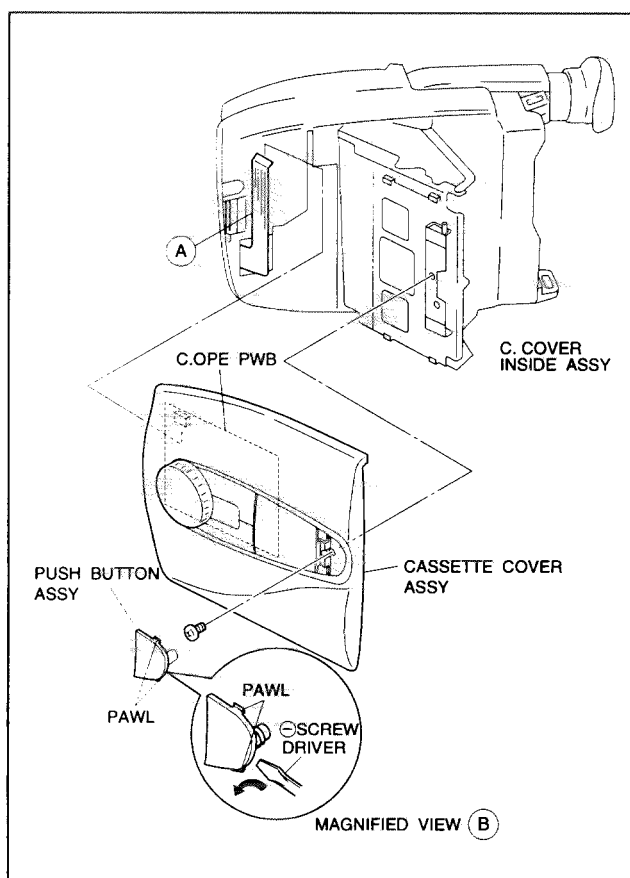
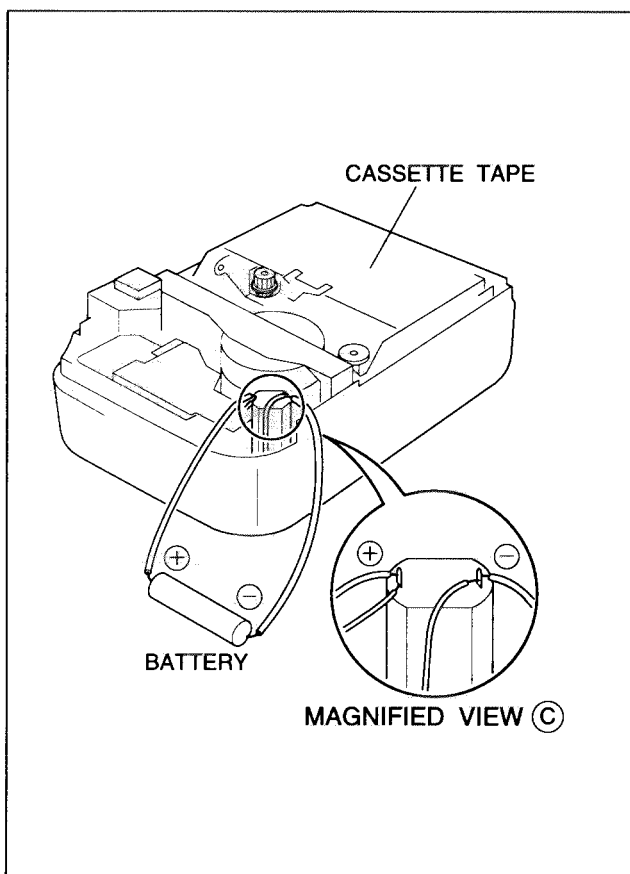

Fig. 1-5-1
Fig. 1-5-2 CASSETTE TAPE
- First disconnect connector (A), remove the cassette cover assy.
2. To detach the push button, release it from locking by two pawls by using (–) screw driver as shown in the magnified view (B) and move it. (Fig. 1-5-1)
3. Remove one screw, open the cassette cover assy and disconnect connector (A).
5. Connect a jumper wire to each pole of the loading motor as shown by the magnified view (C) (Fig. 1-5-2).